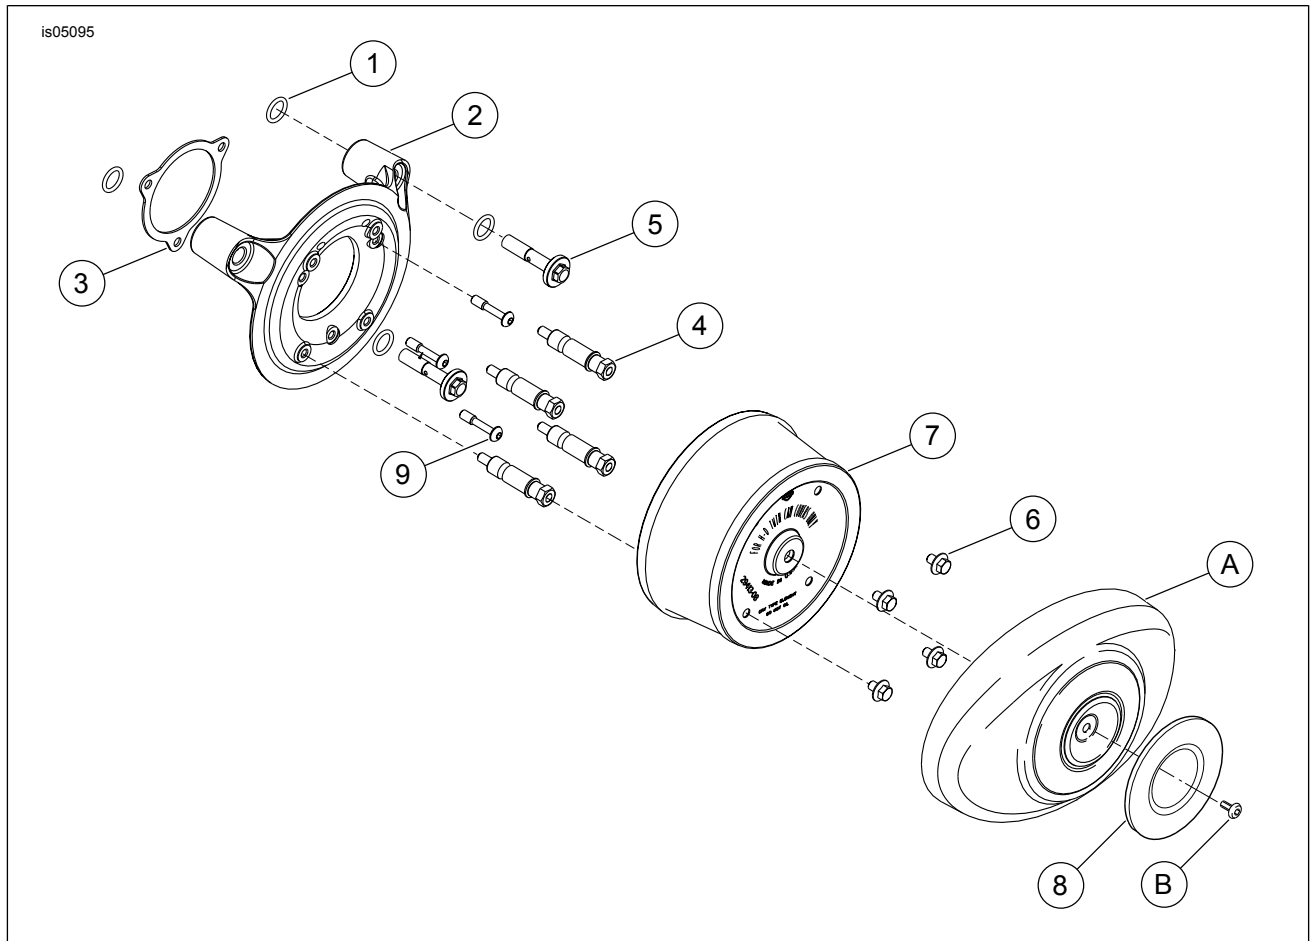

Figure 1. Service Parts: Screamin' Eagle Pro Air Cleaner and Breather Kit
See Figure 1 and Table 1.
1. See Figure 1. Install two O-rings (1) from kit in grooves around breather screw holes on induction module side of backplate (2). Install two O-rings (1) from kit in grooves in underside of head of breather screws (5).
2. Peel the protective strip off the gasket (3) and place the adhesive side onto the backplate. Align to the equally spaced screw holes, and position the gasket carefully before firmly pressing the gasket into place.
3. Insert new breather screws (5) through the backplate.
6. Install air cleaner studs (4) into backplate (2). Tighten to 6.2–6.8 N·m (55–60 in-lbs).
7. Alternately tighten two breather screws (5) to 13.6–16.3 N·m (120–144 in-lbs).
8. Tighten three air cleaner screws (9) to 6.2–6.8 N·m (55–60 in-lbs).
1. See Figure 1. Secure air filter element (7) to air cleaner studs (4) using screws (6). Tighten screws to 55-60 in-lbs (6.2-6.8 Nm).
2. Carefully remove and discard the original air cleaner cover insert from air cleaner cover (A). Remove any residual adhesive on the cover with mineral spirits.
4. Peel liner from adhesive backing of air cleaner cover insert (8). Position insert over air cleaner cover (A) without touching adhesive on cover surface. Line up top of insert with top of oval air cleaner cover.
1. See Figure 1. Remove air cleaner cover (A) and inspect the filter element (7) every 5000 mi (8000 km), or more often under dusty conditions.